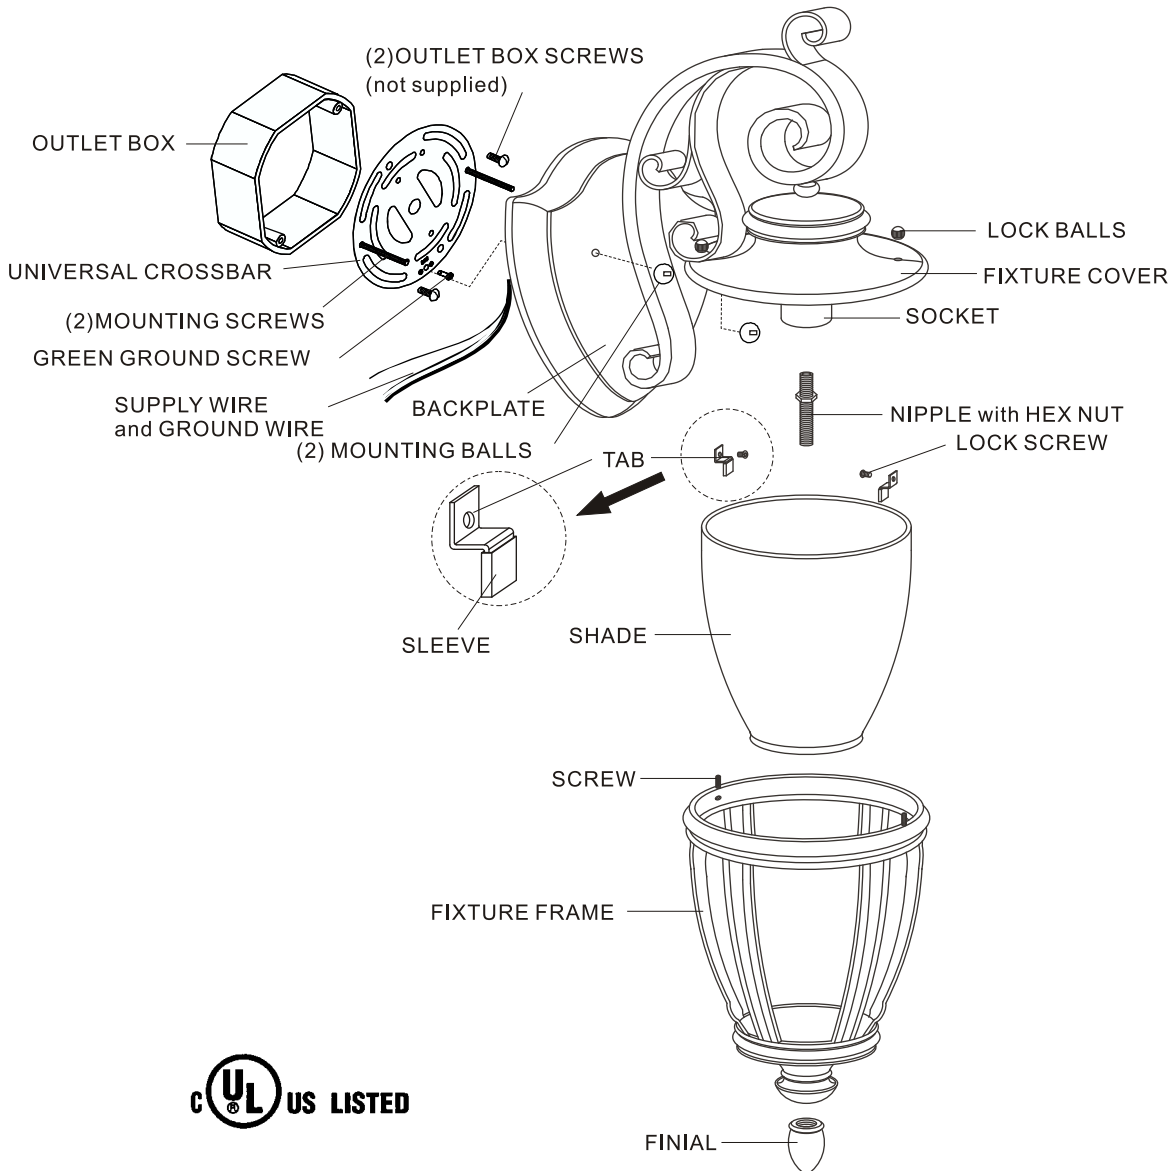

**FIGURE 1**
1. Before beginning installation, carefully unpack and identify all parts referring to illustration FIGURE 1.
2. Turn power to installation point OFF. Locate the UNIVERSAL CROSSBAR and secure to OUTLET BOX with (2) OUTLET BOX SCREWS (not supplied).
4. Carefully tuck all wires into the WALL MOUNTED OUTLET BOX and position the fixture over the outlet box. Align the HOLES in the BACKPLATE with the (2) MOUNTING SCREWS attached to the UNIVERSAL CROSSBAR. Pass the fixture over the (2) MOUNTING SCREWS and secure against by threading WASHERS and (2) MOUNTING BALLS onto end of screw. Tighten until snug.